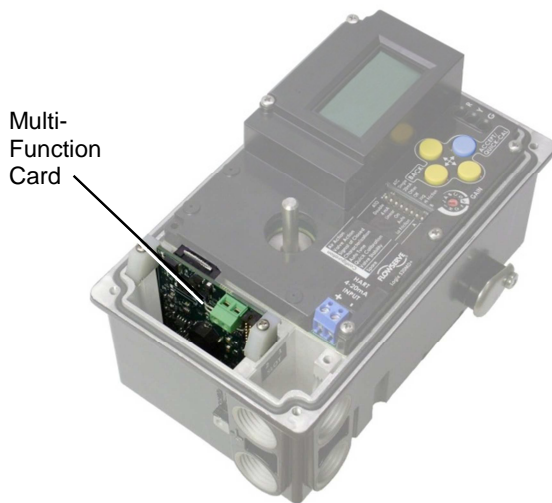

Figure 21: Multi-Function Card
- 8 Route the external cable through the electrical conduit ports in the base and connect the external cable to the auxiliary card. See Figure 21: Multi-Function Card.